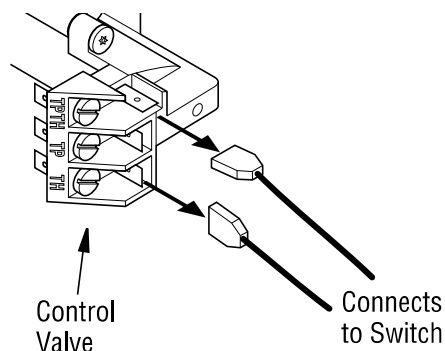

Figure 18- Disconnecting Switch from Control Valve
6. Disconnect switch wire from control valve at TPTH and TH locations (see **Figure 18**).
7. Connect wires from hardware pack (with remote receiver bracket) to control valve at the TPTH and TH locations as shown in **Figure 18**. Connect other ends of these wires to remote receiver wires.